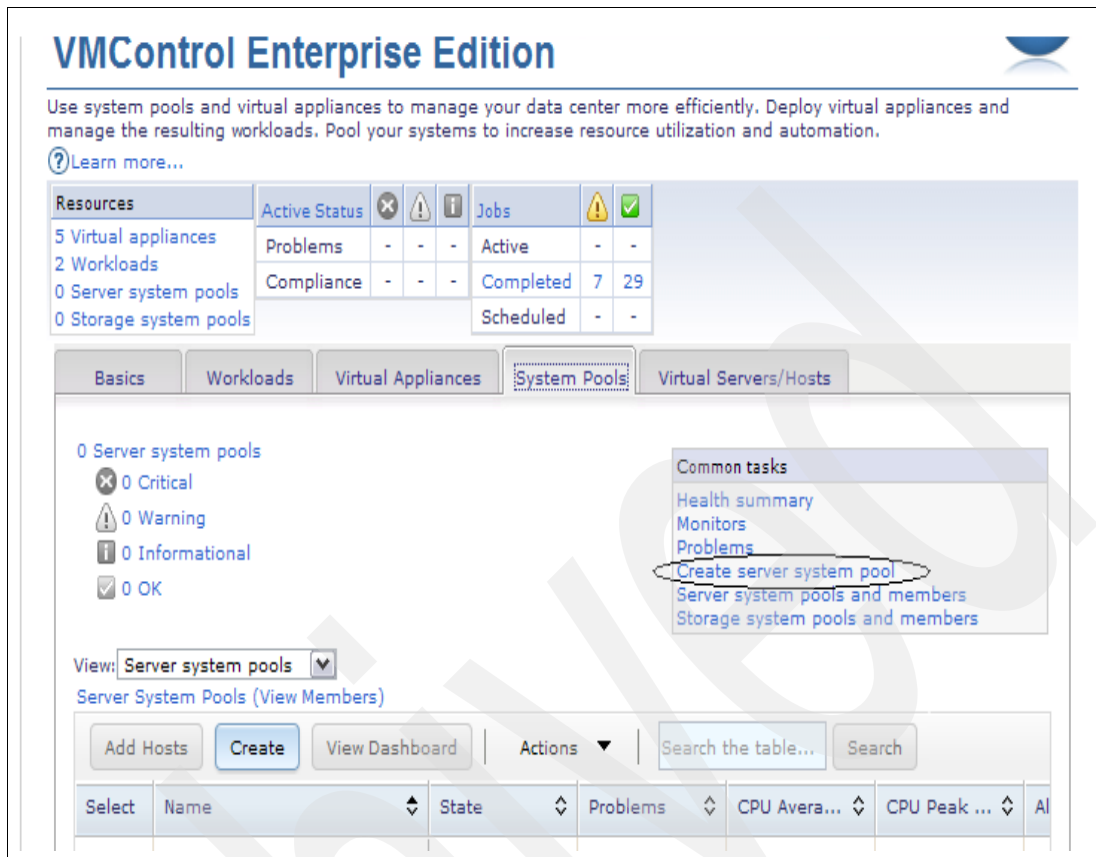

Figure 5-20 Create server system pool
1. Click **System Configuration** → **VMControl** → **System Pools** tab, as shown in Figure 5-20 on page 180.